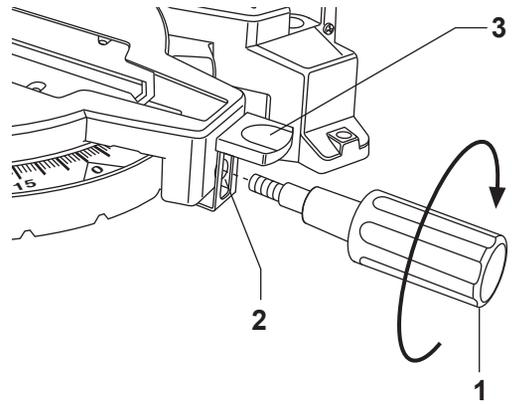

FIG. 2
1. Carefully thread the miter lock knob **1** into the hole **2** located at the front of the miter table (Figure 2).